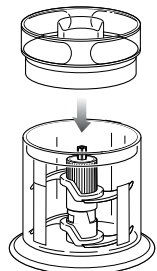

Fig. 3
- 7 Place the splashguard on the bowl. (fig. 3)